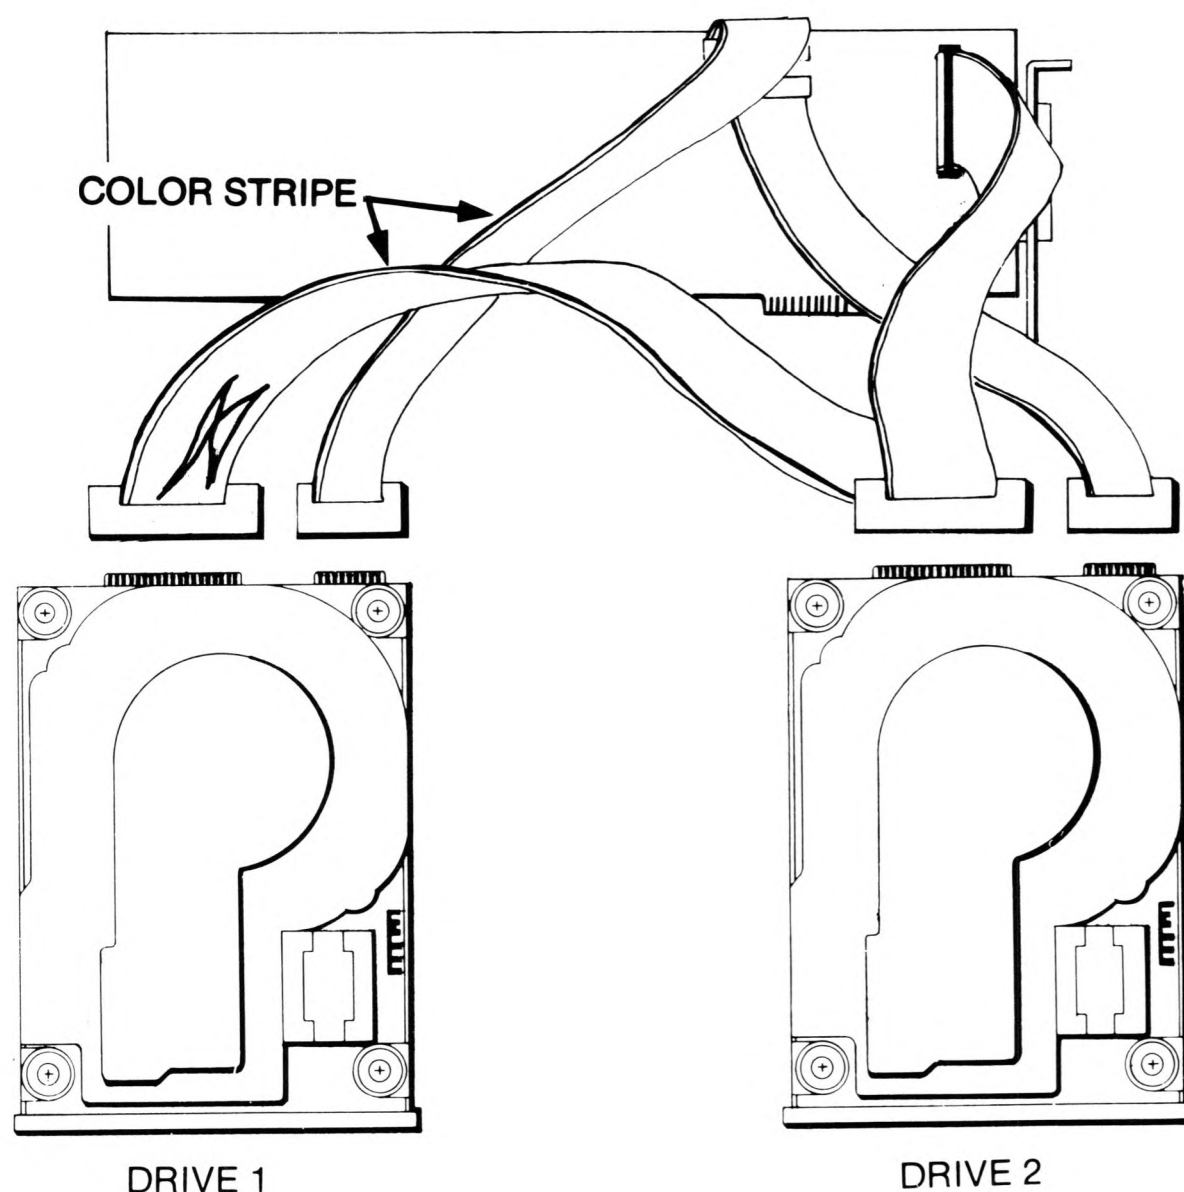

Figure 49: Installing two hard disk drives
4. Connect the 34-pin and 20-pin cables to the hard disk drives. Refer to the subsection on Drive Connectors to differentiate the 20-pin drive 1 connector and the 20-pin drive 2 connector. The end connector of the 34-pin cable (the end with the twist) should be connected to drive 1, while the middle connector should be attached to the drive designated as drive 2. Make sure that the colored stripe on the cables is on the left side as you face the front of the drives. (See Figure 49.)